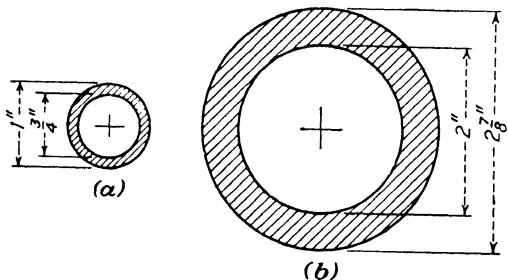

Fig. 22.
8. Find the wall thickness of the tubes in Fig. 22.